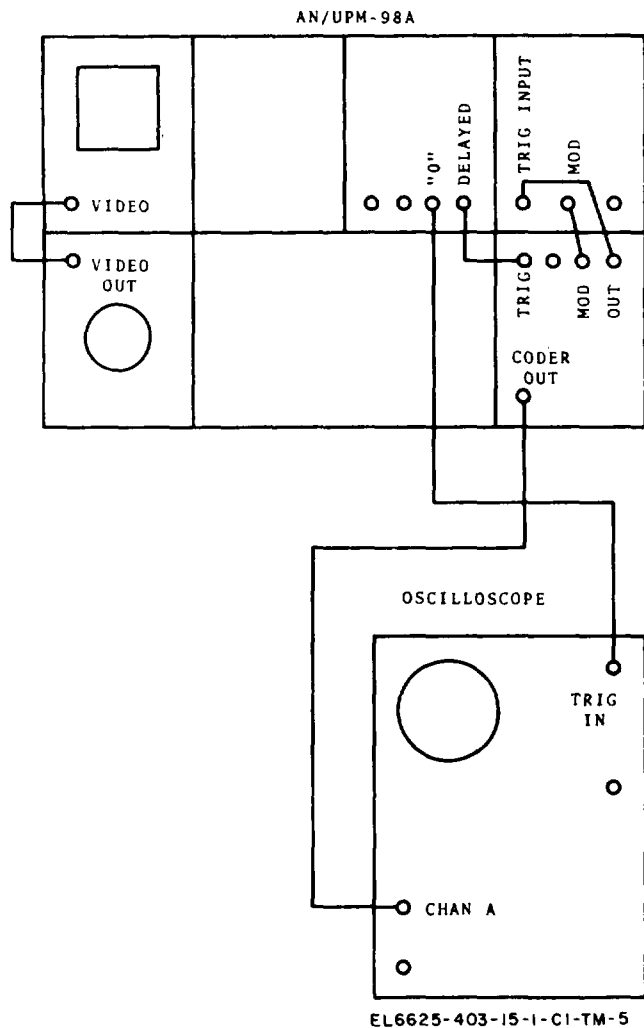

Figure 6-5. Interrogation coder test setup.
l. Set up equipment as shown in figure 6-5.